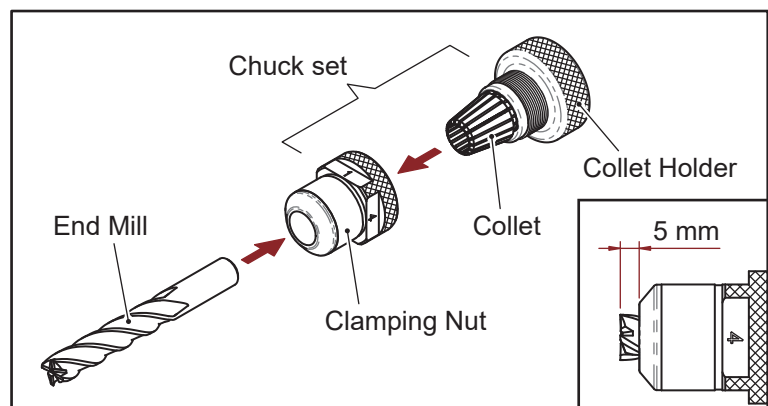

Fig. 7-2
3. Screw in a little bit by clamping nut, then insert end mill shank into the clamping nut until the end mill tip is about 5 mm out of the clamping nut (Fig. 7-2), slightly screw the chuck set to tighten the end mill a little bit.